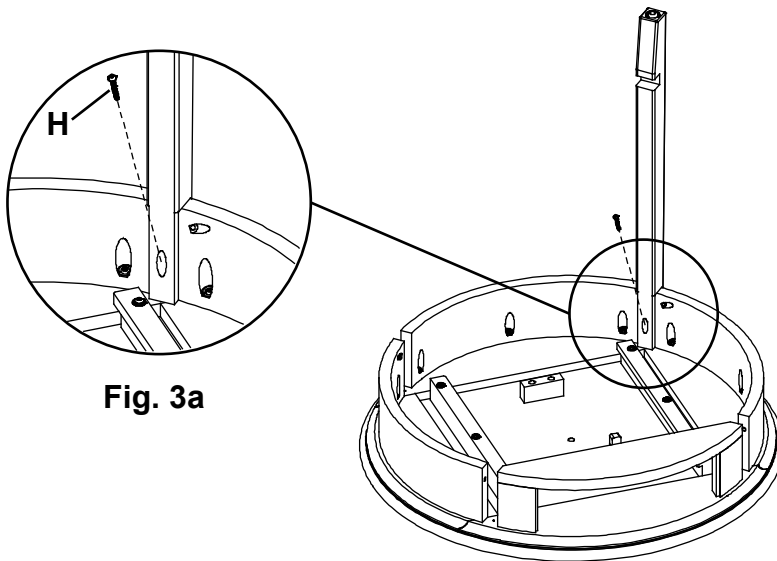

Fig. 3
3. Using the pocket hole as a guide, secure the Leg (B) to the Top Assembly (A) with one #8 x 1-1/4" Pan Head Screw (H). See Figures 3 and 3a.